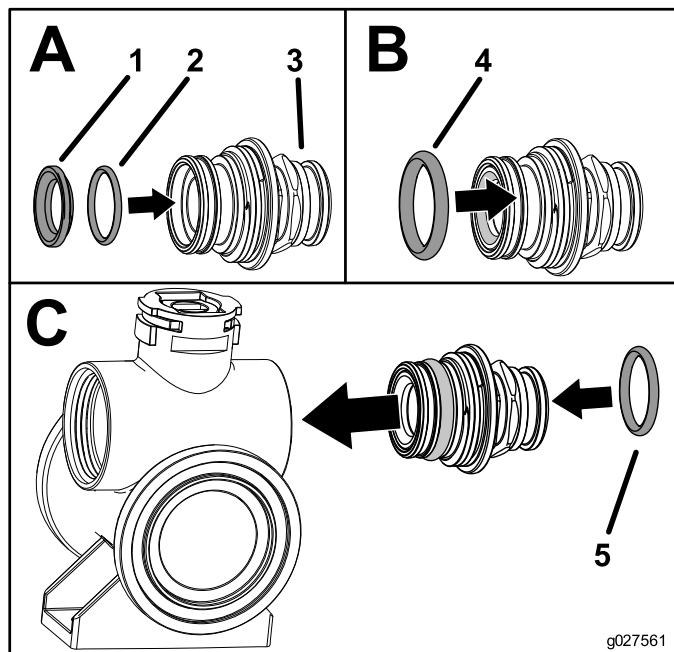

Figure 6
6. Install the back seating O-ring and the valve seat into the endcap fitting (Box A; Figure 6).
7. Install the endcap seal O-ring onto the endcap fitting (Box B; Figure 6).
8. Install the assembled fitting onto the valve body until the endcap fitting flange touches the valve body, then turn the valve an additional 1/8 to 1/4 turn (Box C; Figure 6).
9. Install the outlet fitting O-ring onto the hose fitting (Box C; Figure 6).